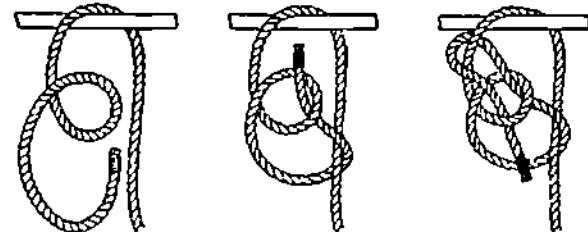

Figure 2-23. Assembling the Bowline on a Bight
o) The bowline on a bight is used to make a loop at any point in a rope. It is easily untied and does not slip with a load. The three steps in tying this knot are shown in Figure 2-23.